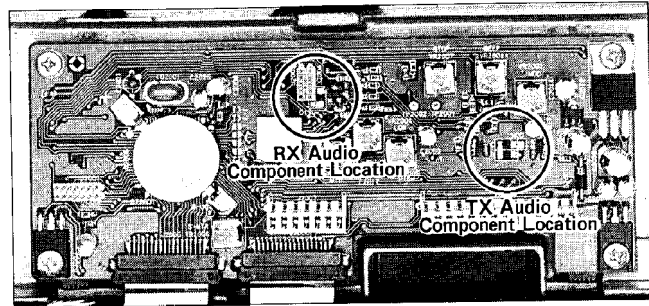

Fig. 1 Modification Component Locations
- ☐ Disconnect the DC power cable, and referring to Figure 1 on the next page, remove the four screws affixing the top cover (two on either side), and *loosen* the one on top from the back by several turns. Lift the rear edge of the cover slightly, then remove it.
- ☐ Remove the top cover as described on page 50 to expose the CNTL Unit. Refer to Fig. 1 to familiarize yourself with the part locations.